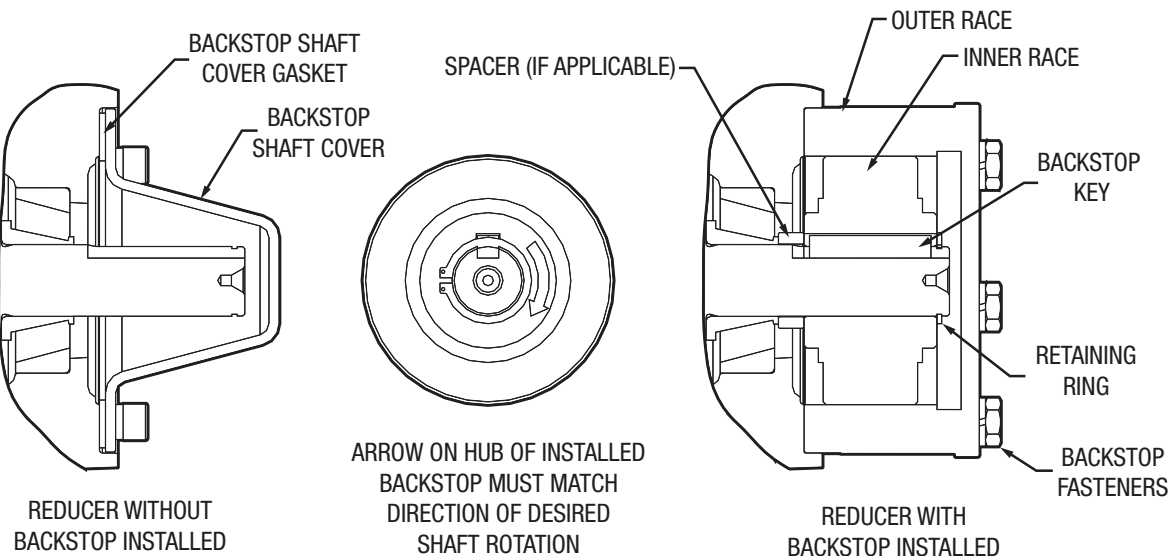

Figure 12 - Backstop Assembly
1. Remove backstop shaft cover and gasket, shown in Figure 12. These parts will not be reused. This cover is directly opposite the extended end of the input shaft.